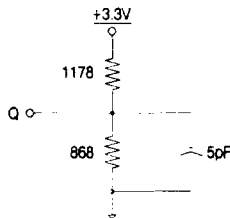

Fig 2 HIGH-Z OUTPUT LOAD
13. Output loading is specified with $C_L=5pF$ as Figure 2. Transition is measured $\pm 200mV$ from steady state voltage. These parameters are sampled.